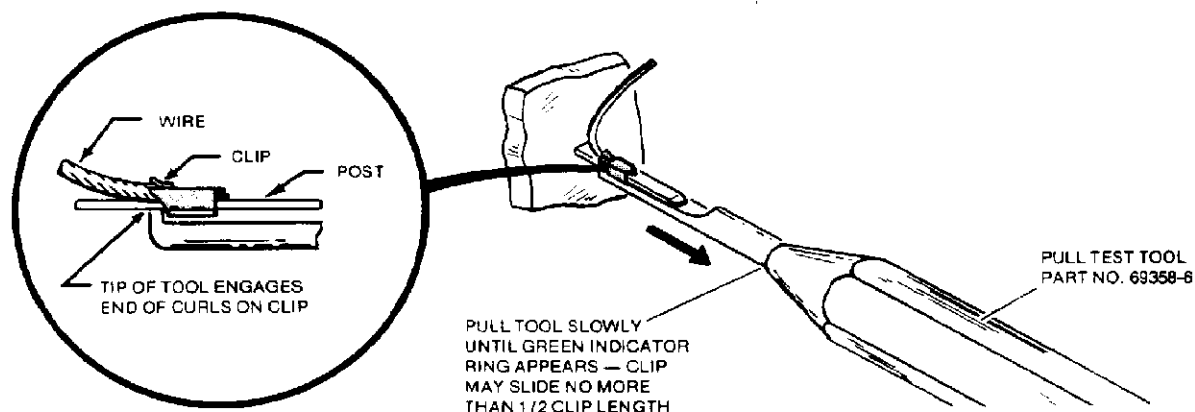

Figure 3
- Hook tip of test tool squarely against ends of curls a front end of clip. See Figure 3.